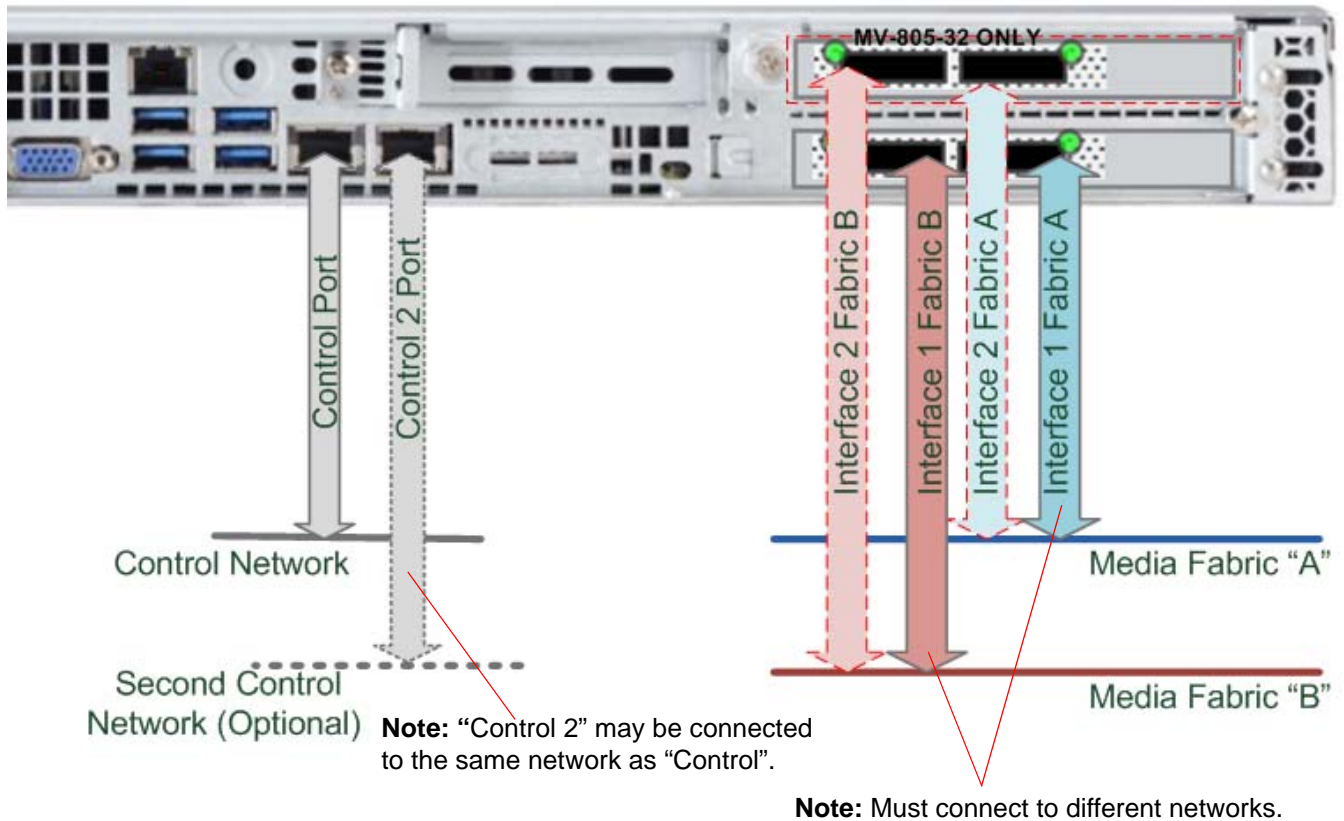

Figure 63 Network Interface Connections for a MV-805 Turnkey Unit
4. Connect the MV-805 unit to the main control network(s) and the IP media network(s) (Fabrics A and B). See Figure 63.